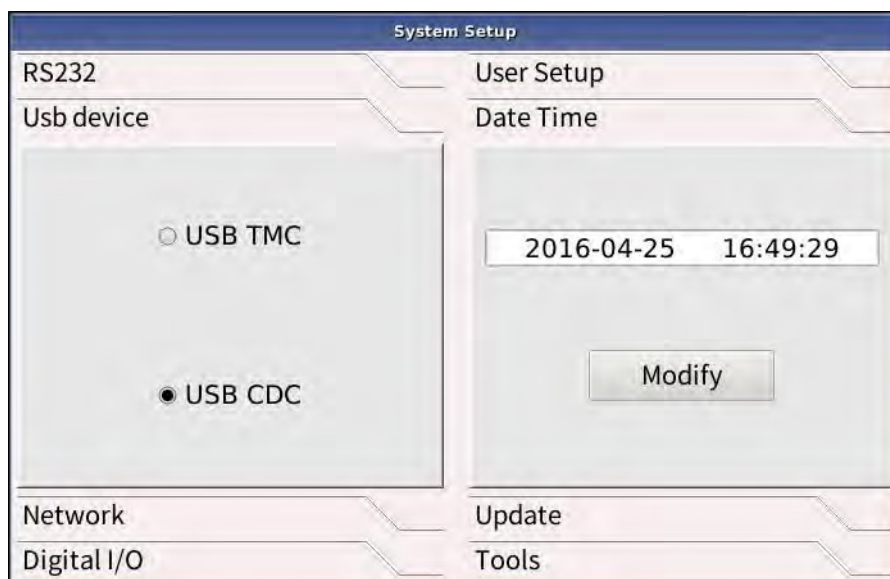

Figure 4-27 System Setup Page 2
**Operation:** (see Figure 4-27) Touch screen to click on the front round reel of USB TMC/USB CDC. The round reel is either all black or all white. Selecting USB TMC in all black indicates that the USB interface uses USBTMC Protocol, and selecting USB CDC in all black indicates that the USB interface uses the USB communication device class.
**Operation:** (see Figure 4-27) Touch screen and click on Modify to modify the date and time displayed in the white box.